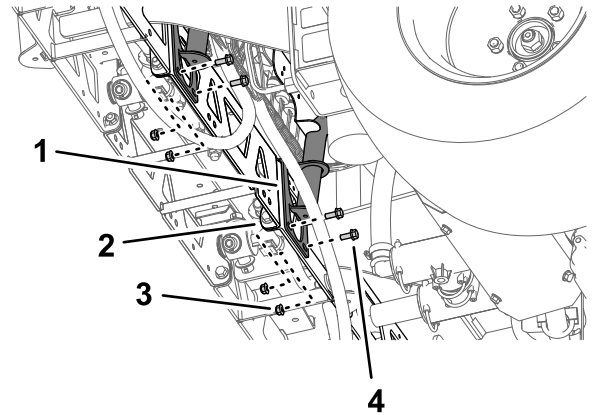
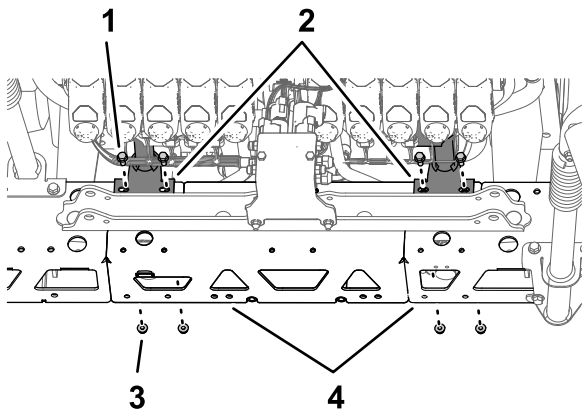

Figure 110
Figure 111
2. Align the holes on the mount bracket of the valve mount to the holes on the truss frame of the center sprayer section (Figure 110).
3. Assemble the valve mount to the truss frame (Figure 110 and Figure 111) with 4 bolts (5/16 x 3/4 inch) and 4 flange locknuts (5/16 inch).